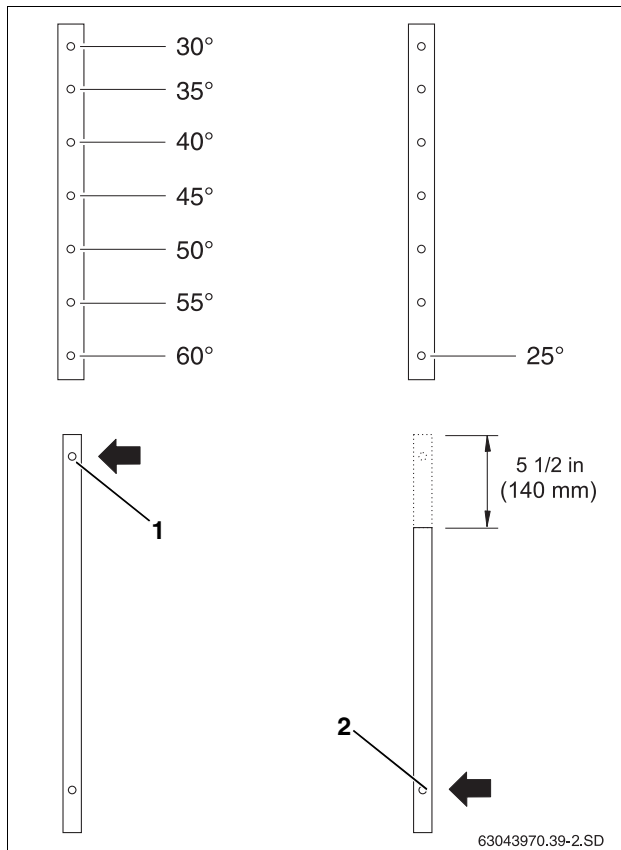
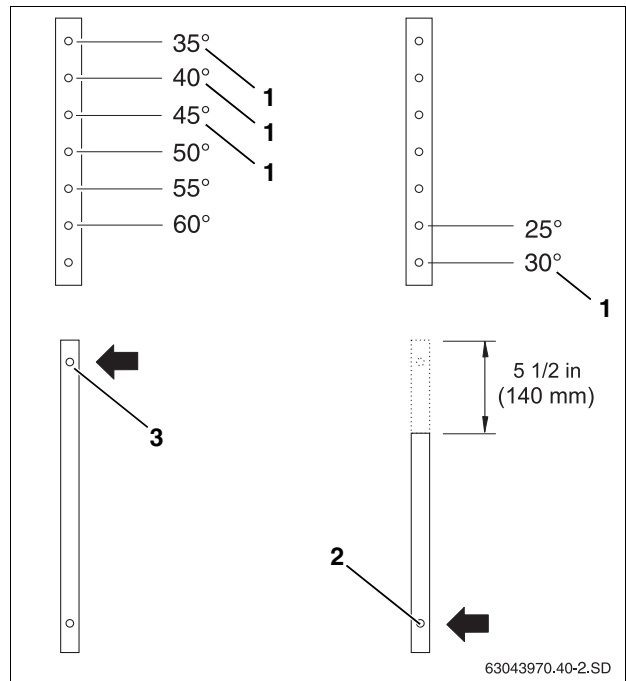

Fig. 12 Adjust inclination for portrait collectors
Fig. 13 Adjusting the inclination of landscape collectors
- ▶ Select holes on the upper and lower telescopic rails as shown in Fig. 12 and Fig. 13.
For portrait installation of a collector with an inclination of 30° to 60°, use the uppermost hole on the lower telescopic rail (Fig. 12, [1]).
For an inclination of 25°, shorten the top of the lower rail by 5-1/2 in (140 mm) and use the lower hole (Fig. 12, [2]).
For installation of landscape collectors with an inclination of 35° to 60°, use the uppermost hole on the lower telescopic rail (Fig. 13, [3]).
For an inclination of 25° and 30°, shorten the top of the lower rail by 5-1/2 in (140 mm) and use the lower hole (Fig. 13, [2]).
- ▶ For wall-mounted installation, use only the positions for 30°, 35°, 40° and 45° (Fig. 13, [1]).